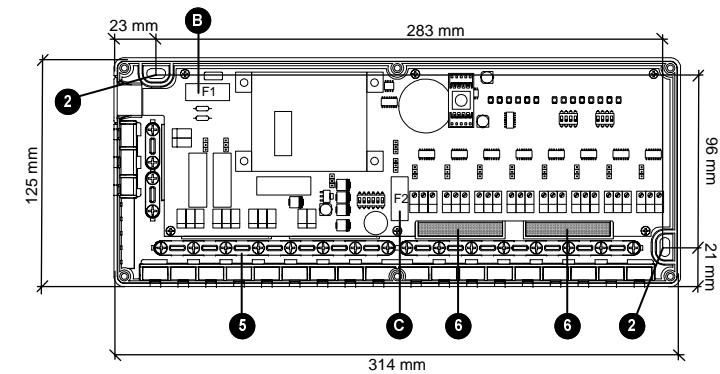

Fig. 2: Internal view and parts.
F1 (ⓑ of Fig. 2) protects the control unit power supply at 230V~ F2 (ⓐ of Fig. 2) protects the power supply of transmitters only.
- Fix the device base to the wall using the two holes for screws indicated in 2 Fig. 2
Using a screwdriver, remove the base wedges as indicated in 3 Fig. 2. Now introduce the cables through the openings in the base, up to the clamps.